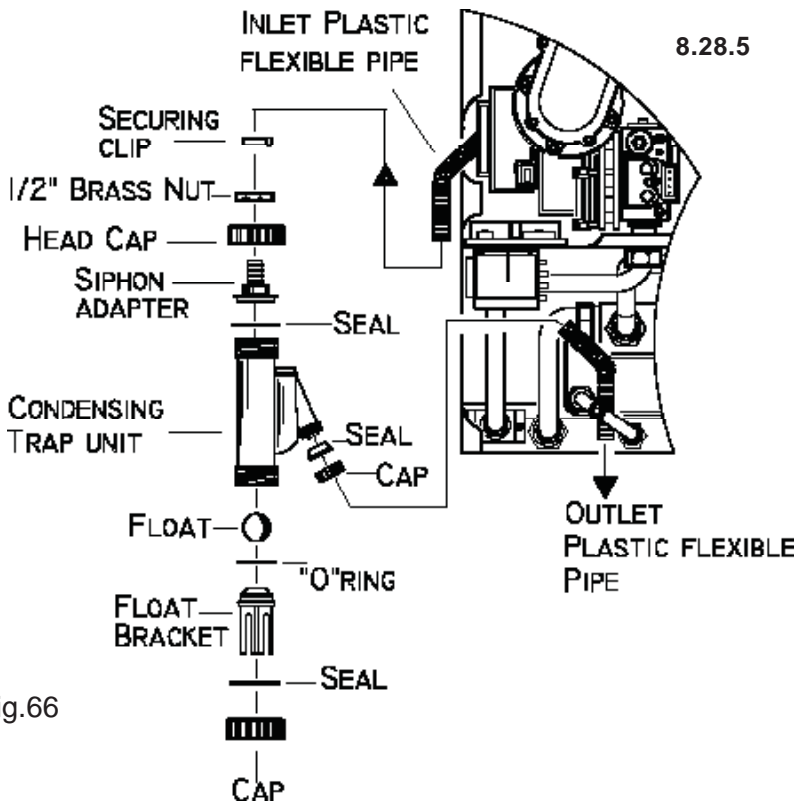

Fig.66
8.26 TO REMOVE/REPLACE CONDENSING TRAP (Fig.66).